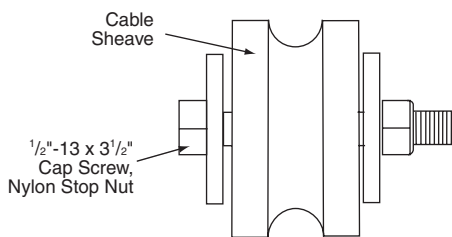

Figure 2
- ③ Install sheaves in milled slots in top post section using 1/2"-13 x 2" Cap Screws and Nylon Lock Nuts (see Fig. 2).